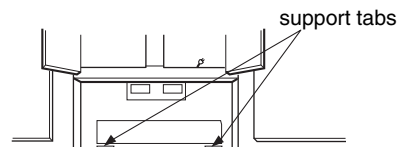
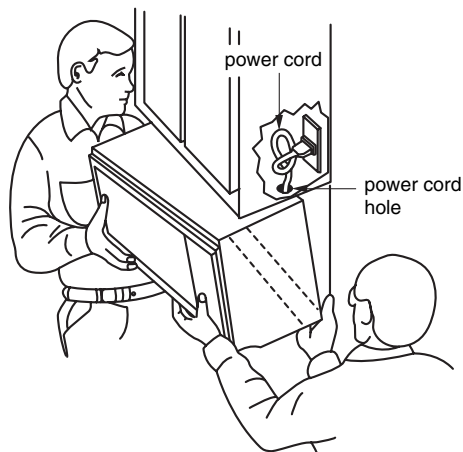

Figure 23
Figure 26
- Carefully lift microwave oven and hang it on support tabs (See Figure 23, page 14) at the bottom of the mounting plate. Reaching through upper cabinet, thread power supply cord through the power supply cord hole in the bottom of the upper cabinet. See Figure 26.